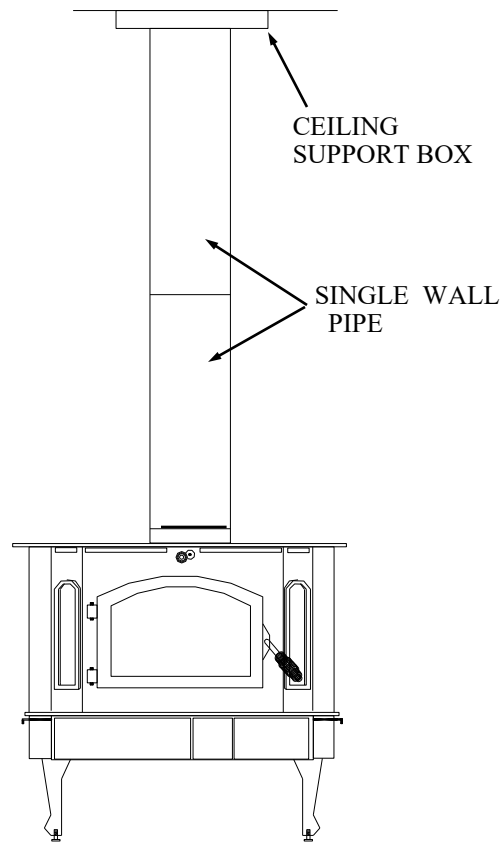

FIGURE 13
3. Connect stove to ceiling support box by using #24 ga. minimum blued or black steel chimney pipe. (DO NOT use galvanized pipe.) Each section should fit into section below or into opening on stove, for drip-free operation. Secure each section together by using at least three (3) sheet metal screws or rivets. (See Figure 13).